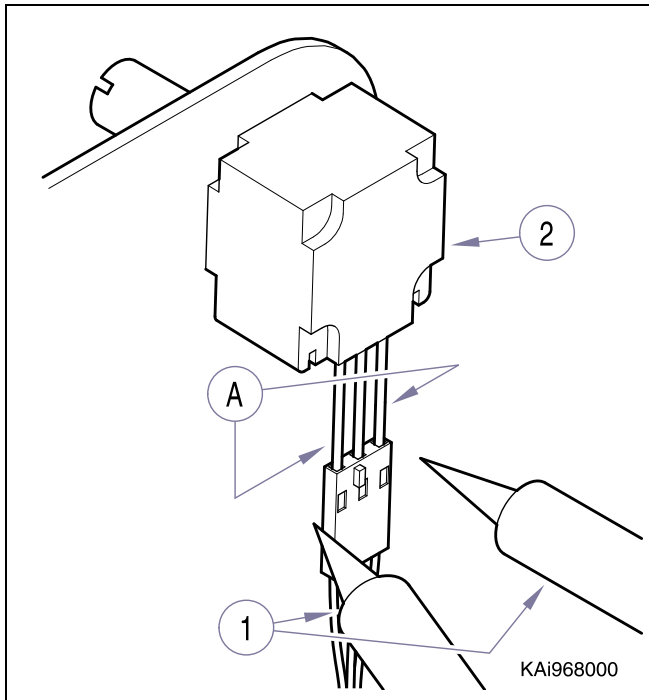

Figure 2-9. Testing Potentiometers
- (2) Plug chair into outlet.
- (3) Set meter to read voltage DC on scale appropriate to read approximately 5 VDC.
- (4) Place meter probes (1, Fig. 2-9) on two outside leads (A) of potentiometer (2).